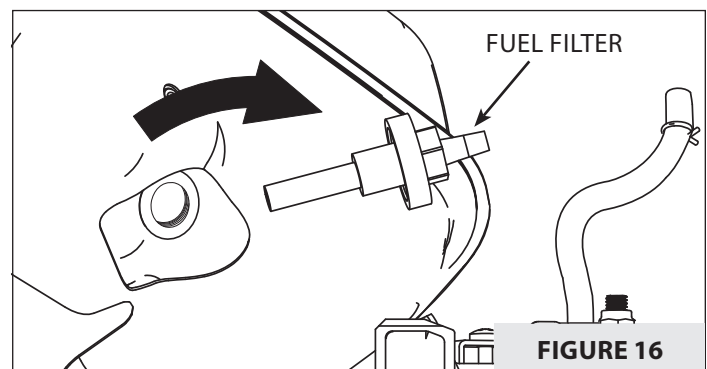

FIGURE 16
7. Remove fuel tank filter by using proper size socket to turn filter counter clockwise. **SEE FIGURE 16.**